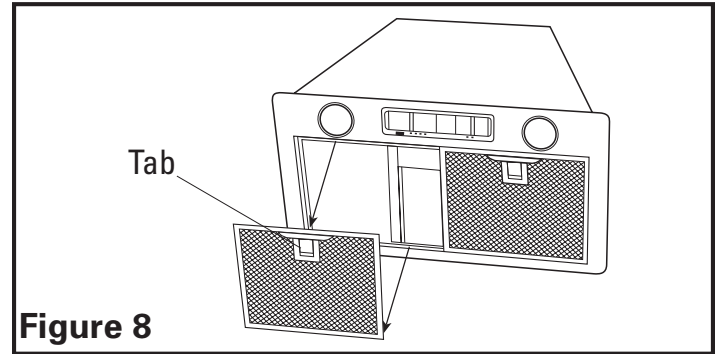

Figure 8
2. To remove the filters, pull down on the handle tab until the filter releases from the unit. To reinstall, slide tab at rear of filter into slot in the unit. While holding in handle of filter, lift filter into place and release handle. The filter should snap securely into place (Figure 8).